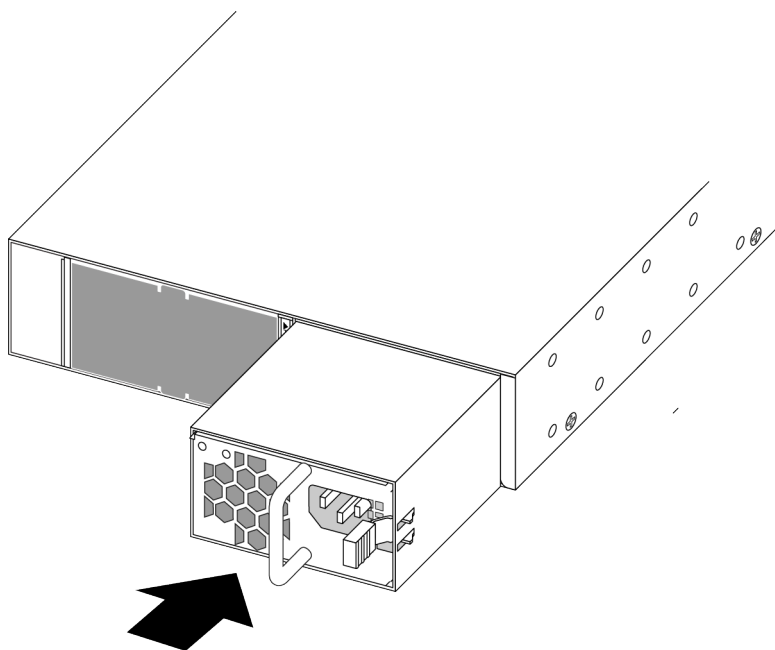

Figure 209: Installing A Summit 350 W or 715 W AC Power Supply
- 6 Carefully slide the power supply all the way into the power supply bay, as shown in Figure 209.